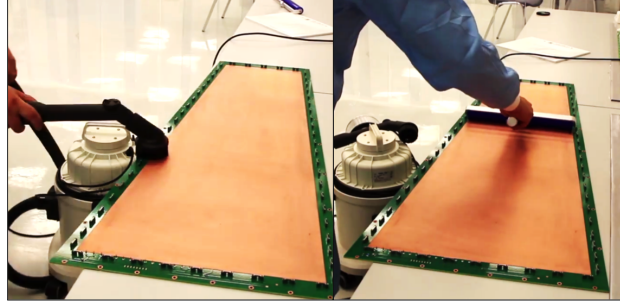

Figure 90: Cleaning of the drift board.
Step 5: Clean the board with the vacuum cleaner, focusing on the pull-out and the electrical circuit and then use the static roller to clean the active area (Fig. 90).